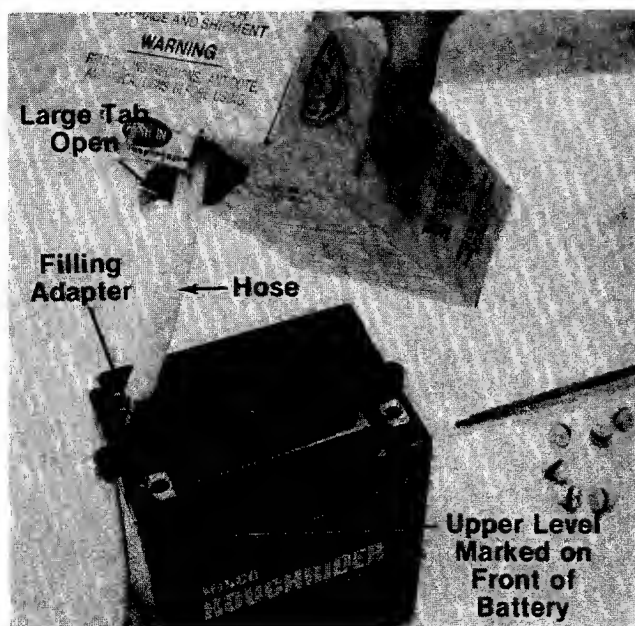

FIGURE 15.
6. Pull out hose from package and hold upright. Squeeze hose forcing all acid back into package. Cut off tip of hose and insert filling adapter. See figure 15.
7. Fill each cell to upper level marked on front of battery. Replace fill caps on battery. See figure 15.